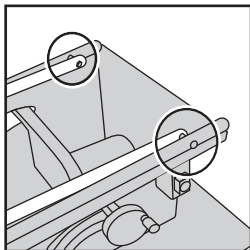

Fig. 7
- Repeat on the other side. (**Fig. 7**).